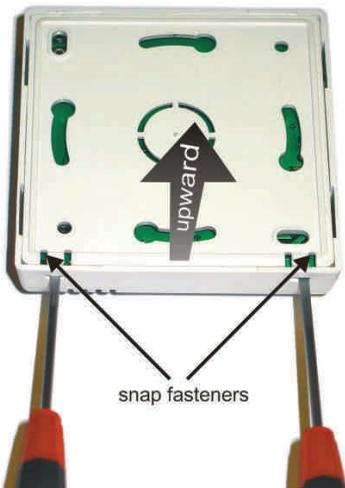

Fig. 14.1. Removal of the back wall
- remove the back wall of the housing (as shown in Figure 14.1)